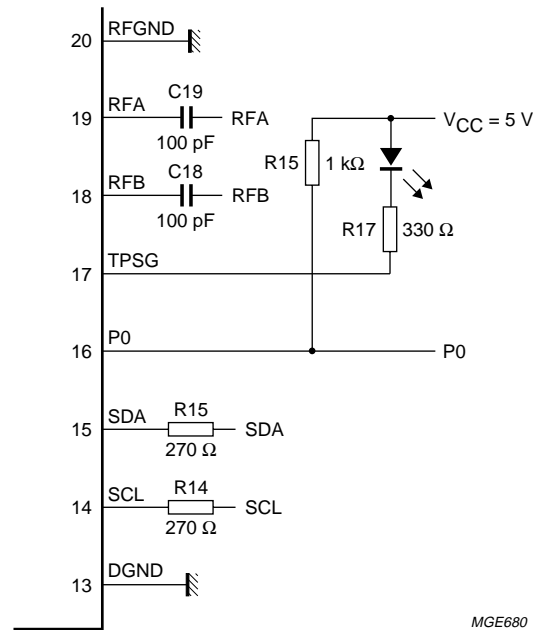

Fig.9 Use of the pin TPSG as an output.
- As an output, it allows to indicate e.g. with an LED that the TPSG has been programmed on using the I²C-bus. In this mode, the pin acts as an open-collector output port, it is possible to connect a LED to the 5 V power supply with a series resistor to limit the current to about 10 mA (see Fig.9).